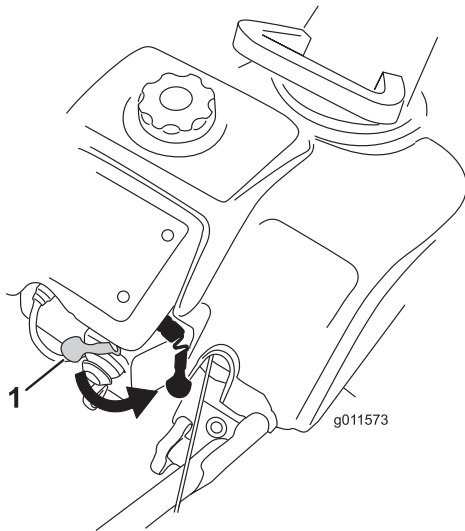
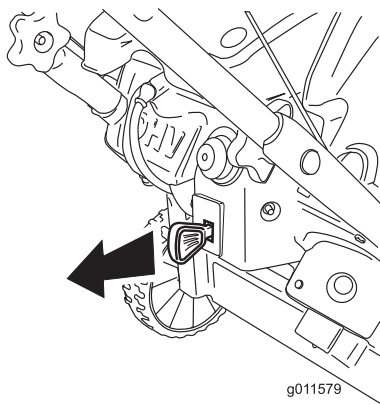

Figure 17
Figure 23
2. Move the choke lever fully to the right (Figure 17).
To stop the engine, pull the ignition key outward until it clicks into the Off position (Figure 23) or move the choke lever fully to the right (Figure 17).